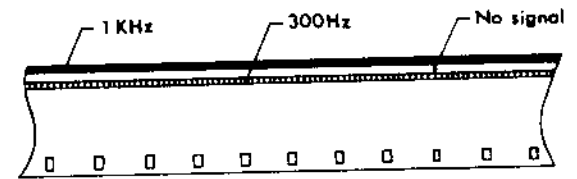

Fig. 48
- After temporary adjustment, set the optical buzz tracking film (PO32), set the amplifier volume to maximum level, and find a position where the double-band sound is not produced. Move ⑮ back and forth at this position before fixing with ⑮ and doing the screw lock. (Refer to Fig. 48)
4. Measurement of spring tension of ⑱: Since ⑮ is hard pressed by ⑰, make sure that the ⑮ is not deformed or worn out.